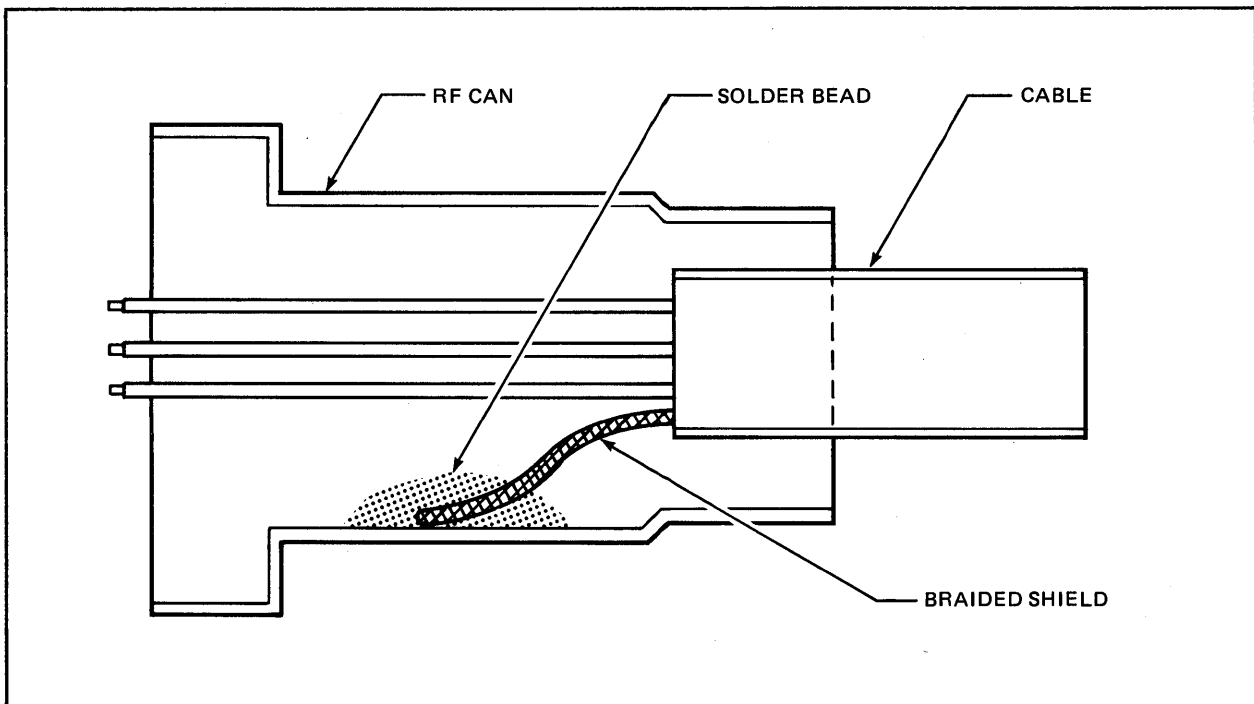

Figure D-8. RF Can Soldered to Shield
- b. Apply a solder bead to the flat triangular surface on the inside of the RF can as shown in Figure D-8.